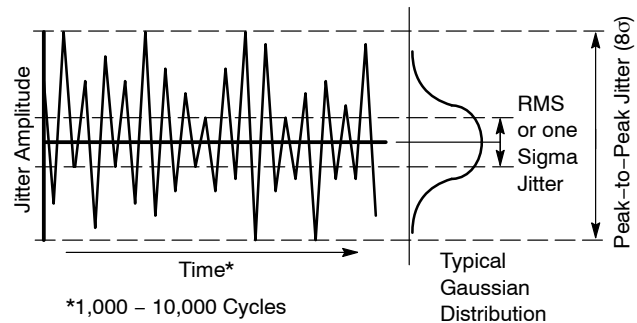

Figure 9. Random Peak-to-Peak and RMS Jitter
**Random Peak-to-Peak Jitter** is the difference between the highest and lowest acquired value and is represented as the width of the Gaussian base. See Figure 9.